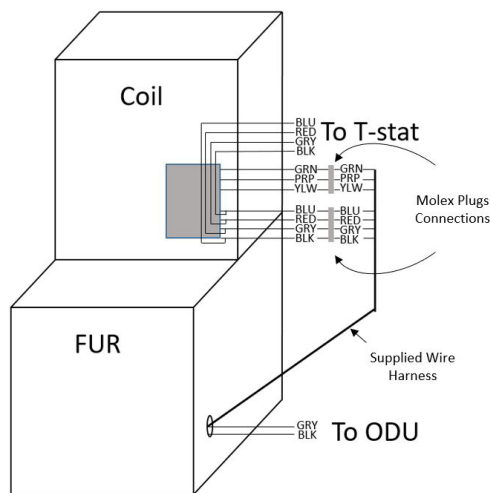

Figure 21
- View Figure 21 for reference of Wire Harness Setup.
Typical wiring will consist of two wires between the indoor unit and outdoor unit and four wires between the indoor unit and thermostat. Figure 21 shows the required wires are: data lines, 1 and 2; "R" (24 VAC hot) and "C" (24 VAC common).